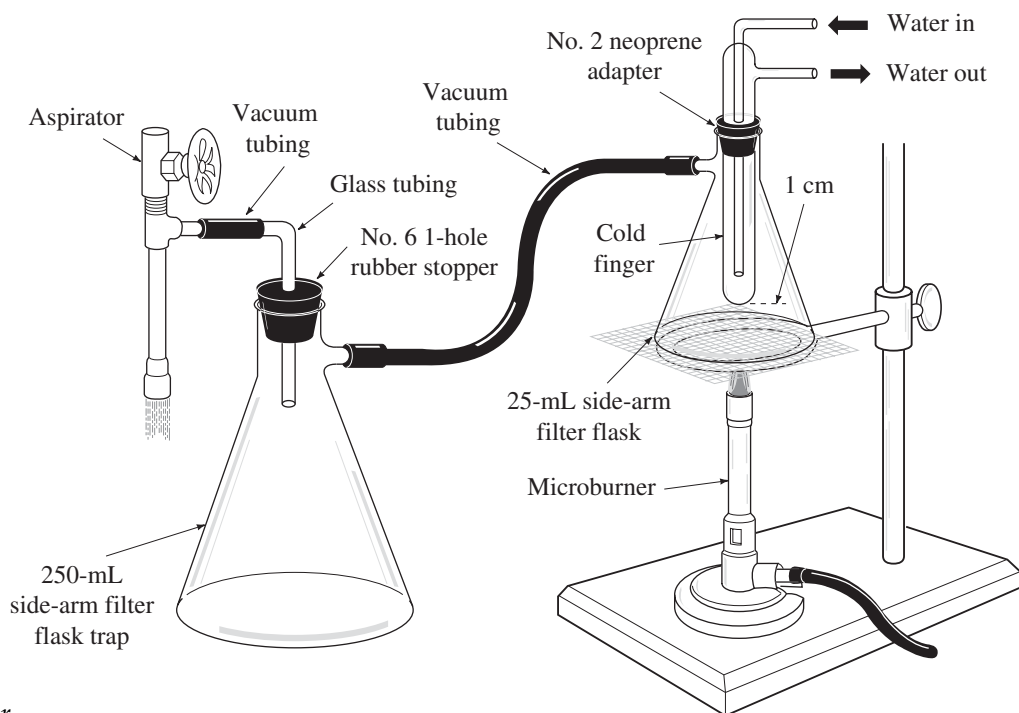

Figure 31.3
10. Weigh a 25-mL side-arm filter flask containing one or two boiling stones. Record this weight (2). By means of gravity filtration, filter the dichloromethane–salt mixture into the preweighed flask. Rinse the salt on the filter paper with an additional 2.0 mL of dichloromethane.
11. Remove the dichloromethane by evaporation *in the hood*. Be careful not to overheat the solvent; it may foam over. The solid residue that remains after the solvent is gone is the crude caffeine. Reweigh the cooled flask (3). Calculate the weight of the crude caffeine by subtraction (4) and determine the percent yield (5).
12. Take a melting point of your solid. First, scrape the caffeine from the bottom and sides of the flask with a microspatula and collect a sample of the solid in a capillary tube (review Experiment 13 for the technique). Pure caffeine melts at 238°C . Compare your melting point (6) to the literature value.
13. At the option of your instructor, the caffeine may be purified further. The caffeine may be sublimed directly from the flask with a cold finger condenser (Figure 31.3). Carefully insert the cold finger condenser into a no. 2 neoprene adapter (use a drop of glycerine as a lubricant). Adjust the tip of the cold finger to 1 cm from the bottom of the flask. Clean any glycerine remaining on the cold finger with a Kimwipe and acetone; the cold finger surface must be clean and dry. Connect the cold finger to a faucet by latex tubing (water *in* the upper tube; water *out* the lower tube). Connect the side-arm filter flask to a water
aspirator with vacuum tubing, installing a trap between the aspirator and the sublimation setup (Figure 31.3). When you turn the water on, press the cold finger into the filter flask until a good seal is made. Gently heat the bottom of the filter flask that holds the caffeine with a microburner (support the *base* of the microburner); move the flame back and forth and along the sides of the flask. **Do not allow the sample to melt.** If the sample melts, *stop* heating and allow to cool before continuing. When the sublimation is complete, disconnect the heat and allow the system to cool; leave the aspirator connected and the water running.